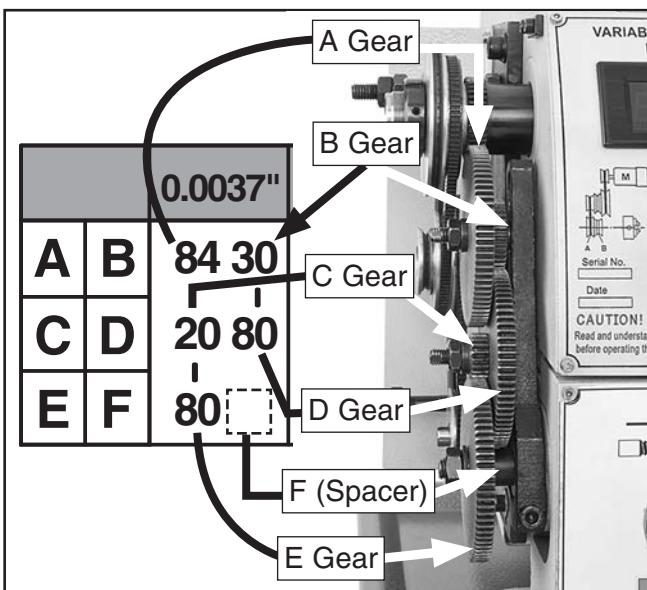

Figure 93. Power feed change gear configuration.
7. Replace A/B gear with 84T and 30T gears, replace C/D gear with 20T and 80T gears, and install spacer with 80T gear on bottom shaft (see **Figure 93**).